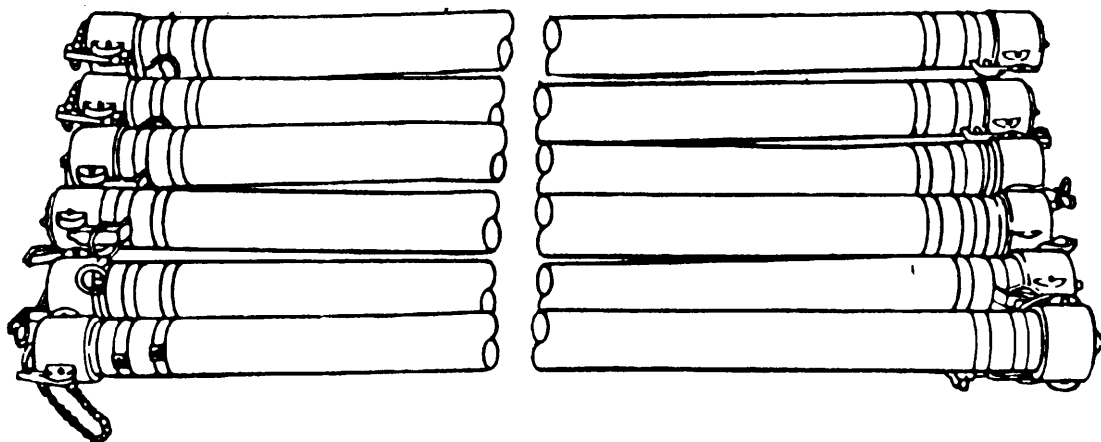

Figure 1-15. Suction Hose Assemblies.
**1-20. SUCTION HOSE ASSEMBLIES.** (Refer to Figure 1-15.)